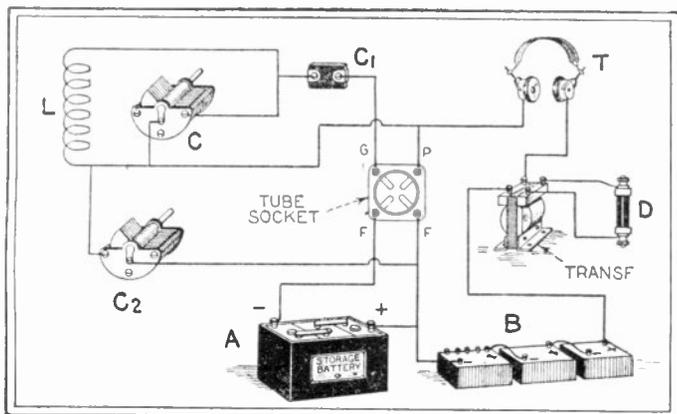

Fig. 62A. One of the circuits used by the Bureau of Standards in the measurement of currents too small to actuate the ordinary measuring apparatus.
(62) Q. I. Mrs. R. E. Garriett, Pittsburgh, Pa., inquires if there is any known method of measuring extremely small currents with accuracy.
A. I. Although it is not a matter of general knowledge, laboratory tests have shown that the vacuum tube is a valuable instrument of precision for use in measuring currents almost infinitesimally small. Fig. 62A on the next page shows one of the circuits developed by the bureau of Standards for this purpose. The coil, L, is inductively coupled to the circuit which carries the current to be measured, while a sensitive galvanometer is connected in series with detector D. A local current is generated by the oscillation of the vacuum tube circuit, the frequency of which is regulated by the tuning condenser C. A note is produced in the